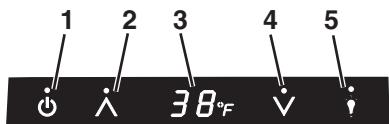

Figure 40
3. Open the door and press the **POWER** icon (see **Figure 40,1**). to turn the unit **OFF**.
Once installation and leveling is complete, the unit is ready for initial start-up and operation. The **POWER** icon is located inside the unit.(see **Figure 40,1**).
2. Open the door and press the **POWER** icon on the display to turn the unit on (see **Figure 40,1**).